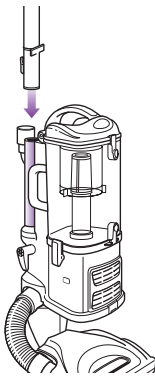

Fig. 9
- 3 Attach the end of the extension wand to the tube on the back of the portable *Lift-Away*® canister until it clicks into place. **(Fig. 9)**